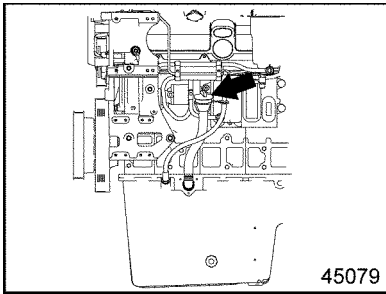

Figure 31 Oil Fill
9. Add new engine oil through the oil fill (see Figure 31) until the maximum fill level on the oil dipstick has been reached. Engine fill capacity is 44 L (46 qts).